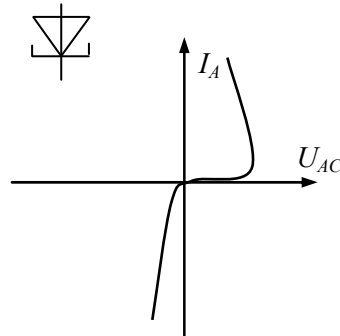

Fig. 1.15
**Tunnel diode.** Diodes with a breakdown level equal to zero are called *tunnel diodes*, or *Shockley diodes*. The tunnel diode is a heavily doped diode that is used in high-frequency communication circuits for such applications as amplifiers, oscillators, modulators, and demodulators. The unique operating curve of the tunnel diode is a result of the heavy doping used in the manufacturing of the diode. The tunnel diode is doped about one thousand times as heavily as a standard *pn*-junction diode. This type of a diode exhibits a negative resistance. This means that a decrease in voltage produces an increase in current (Fig. 1.15). The negative resistance is useful in high-frequency circuits called oscillators, which create the sinusoidal signals.